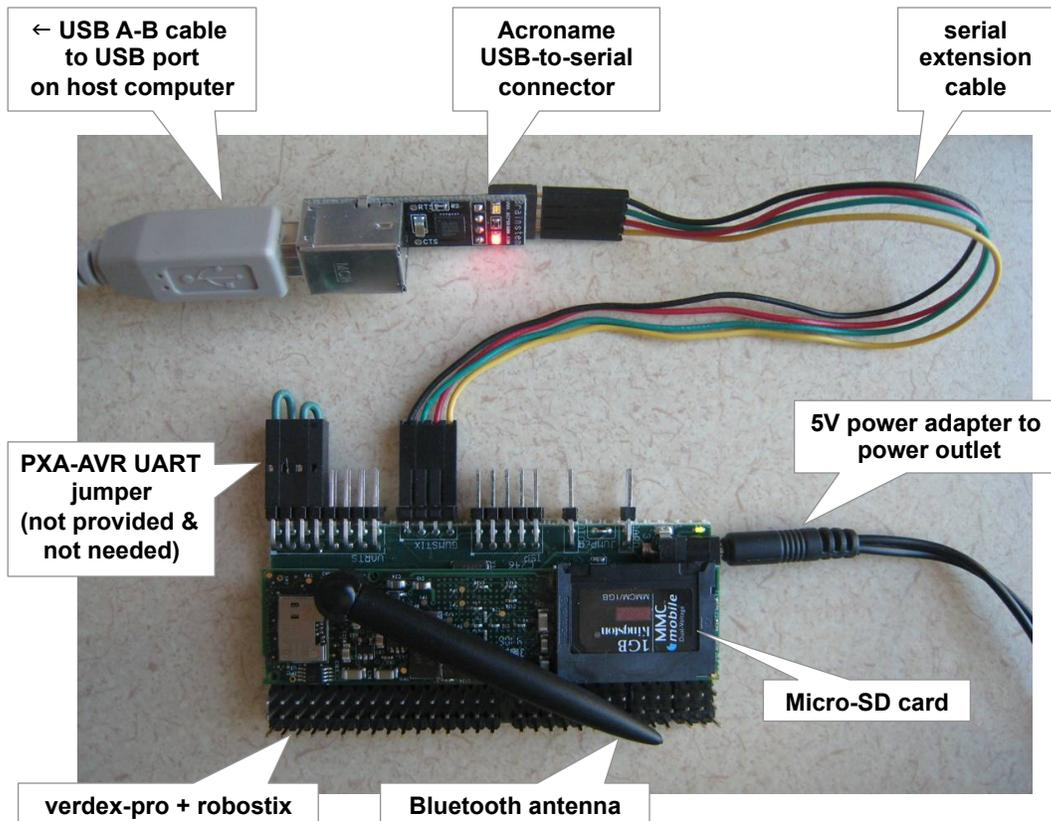

Figure 1: Hardware kit components connected together.
The heart of the 18–349 hardware kit consists of the verdex-pro motherboard and the robostix expansion board (see Figure 1). The verdex-pro motherboard is the smaller of the two boards and contains an Intel PXA270 processor (now owned by Marvel), 16 MB of onboard flash memory, a microSD card slot, and a Bluetooth module. The robostix board is the larger of the two and contains an Atmel ATmega128 microcontroller with headers for nearly every I/O pin, as well as additional headers for some of the gumstix (PXA) I/O pins.
3. Ignore the PXA–AVR UART jumper shown in Figure 1. This is not provided in your hardware kit, and you will not need the jumper for the labs (the jumper is shown purely for the sake of completeness because it might be required for interaction between the verdex-pro and the robostix for hobby projects and other extensions).